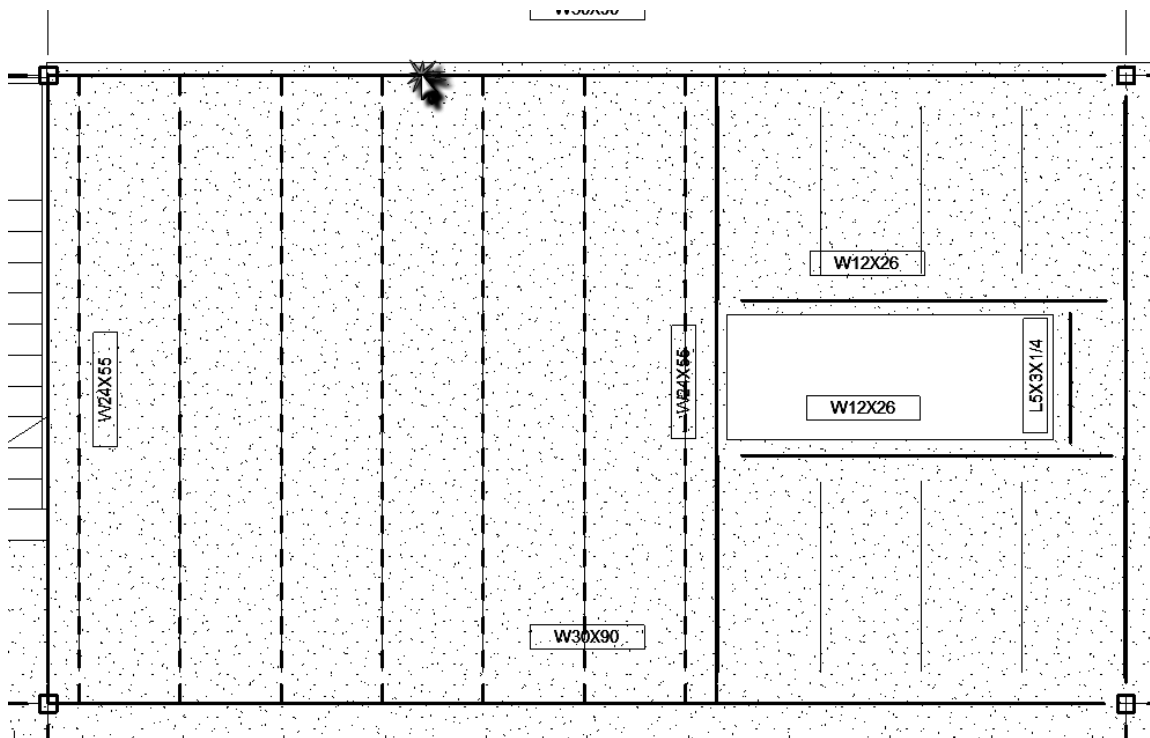

FIGURE 7-6.10 Placing a beam system symbol
23. Hover over the *Beam System* until it highlights with heavy dashed lines as in Figure 7-6.10, and then **click**.